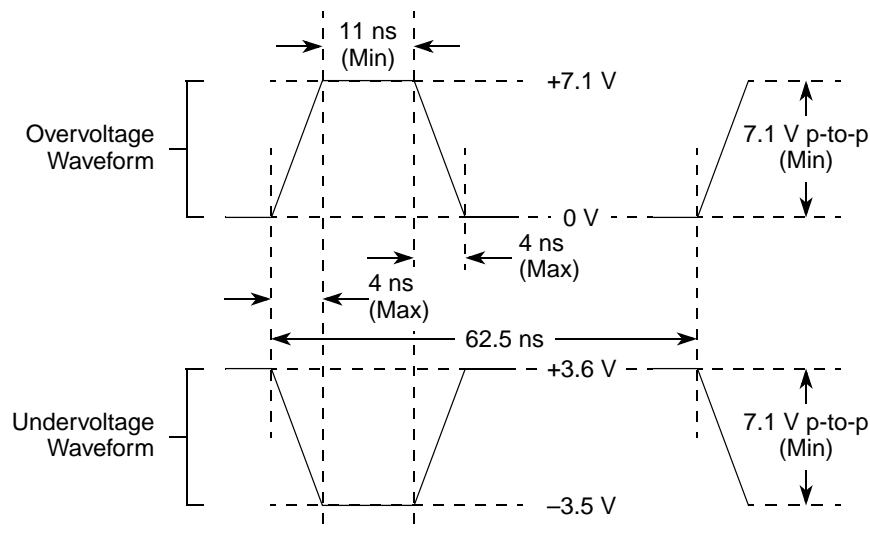

Figure 4. Maximum AC Waveforms on PCI interface for 3.3-V Signaling
- OVIN on the PCI interface may overshoot/undershoot according to the PCI Electrical Specification for 3.3-V operation, as shown in Figure 4.